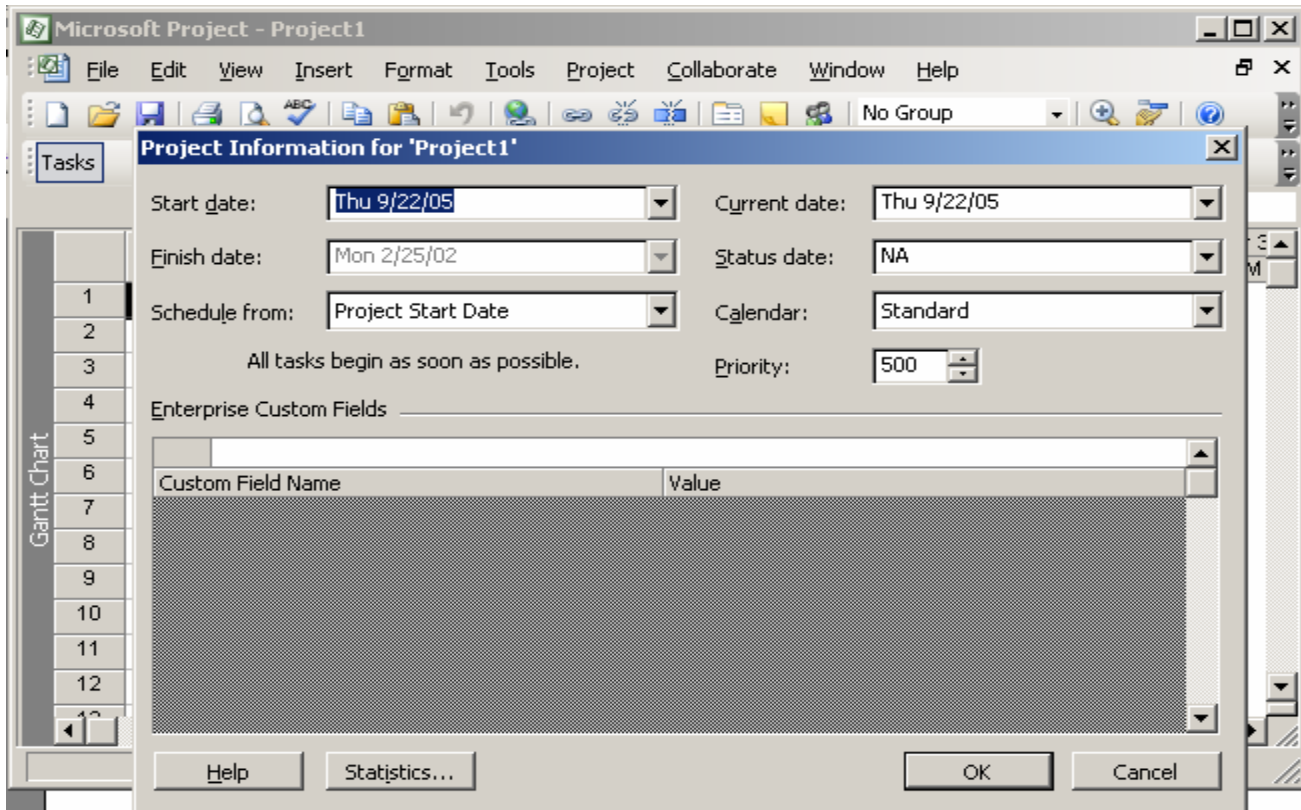

Figure 11.16: Displaying Project Baseline Information
- In the **Project Information** dialog box, click the **Statistics** button to view the project statistics for the Sample-Project.mpp dialog box. This dialog box is displayed in Fig 11.16.